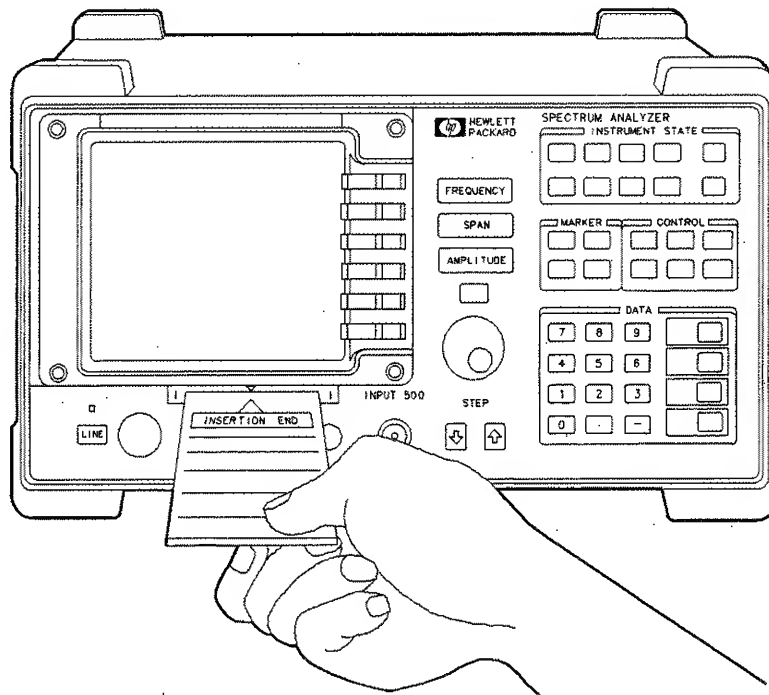

Figure 5-3. Inserting the Memory Card
2. Insert the card with its arrow matching the raised arrow on the bezel around the card-insertion slot. See Figure 5-3.